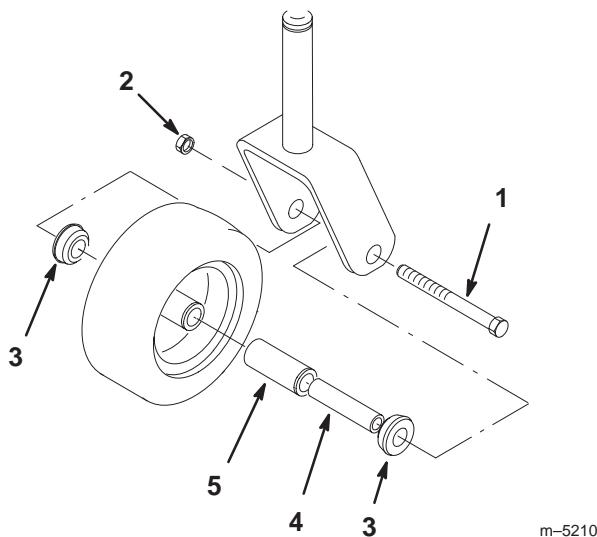

Figure 57
- Remove the locknut and wheel bolt holding the caster wheel to the caster fork (Fig. 57).
- Remove one bushing, then pull the spanner bushing and roller bearing out of the wheel hub (Fig. 57).
- Remove the other bushing from the wheel hub and clean any grease and dirt from the wheel hub (Fig. 57).
- Inspect the roller bearing, bushings, spanner bushing and inside of the wheel hub for wear. Replace any defective or worn parts (Fig. 57).
- To assemble, place one bushing into the wheel hub. Grease the roller bearing and spanner bushing, and slide them into the wheel hub. Place the second bushing into the wheel hub (Fig. 57).
- Install the caster wheel into the caster fork and secure with the wheel bolt and locknut. Tighten the locknut until the spanner bushing bottoms against the inside of the caster forks (Fig. 57).